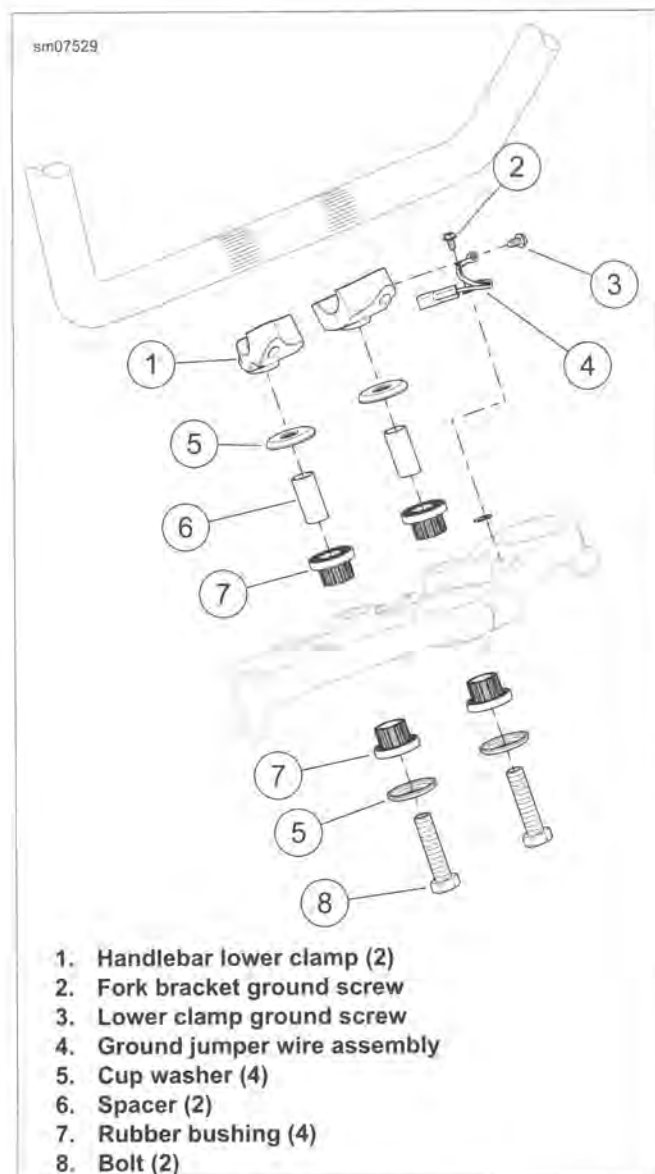

Figure 2-104. Handlebar Mounts
See Figure 2-104. When assembling handlebar mounts, apply LOCTITE 243 MEDIUM STRENGTH THREADLOCKER AND SEALANT (blue) to threads of bolts (8). Tighten bolts to 30-40 ft-lbs (40.7-54.2 Nm).